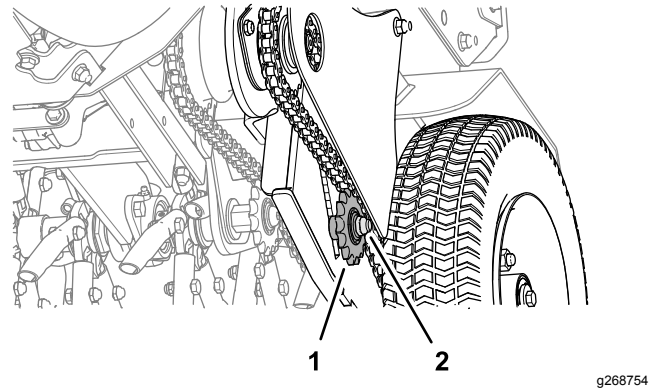

Figure 45
4. To adjust the chain tension, loosen the idler bolt and locknut, and push up on the sprocket to tighten the chain (Figure 45).